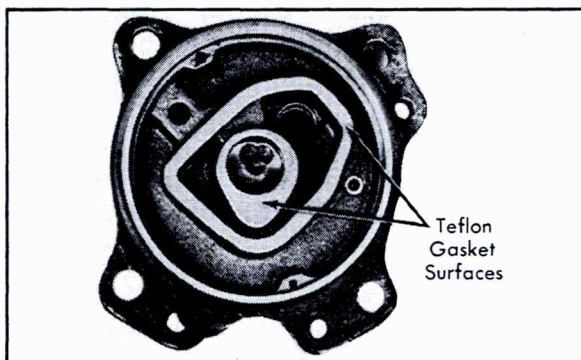

Fig. 1-54 Teflon Gasket Surfaces on Rear Head
7. Wipe excess oil from all teflon gasket surfaces on rear head casting webs, and examine gasket surfaces, Fig. 1-54. If any damage is observed, head should be replaced.